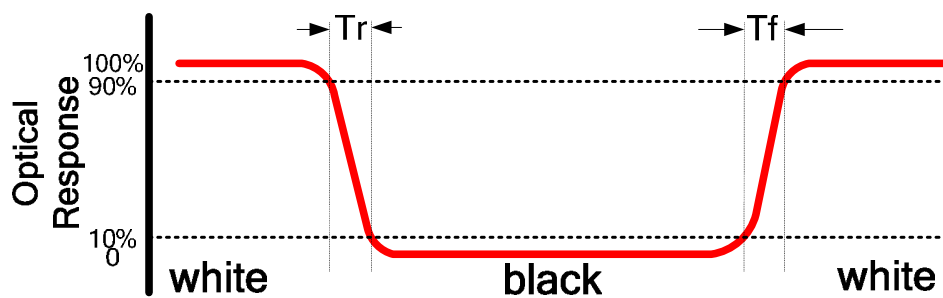

FIG.2. Measuring method for Contrast ratio,surface luminance, Luminance uniformity,CIE (x, y) chromaticity
Note1. Contrast Ratio(CR) is defined mathematically by the following formula. For more information see FIG 2.:
Note2. Surface luminance is the LCD surface from the surface with all pixels displaying white. For more information see FIG 2.
Note3. The uniformity in surface luminance (δ WHITE) is determined by measuring luminance at each test position 1 through 5, and then dividing the maximum luminance of 5 points luminance by minimum luminance of 5 points luminance. For more information see FIG 2.
Note5. CIE (x, y) chromaticity ,The x,y value is determined by screen active area position 5. For more information see FIG 2.